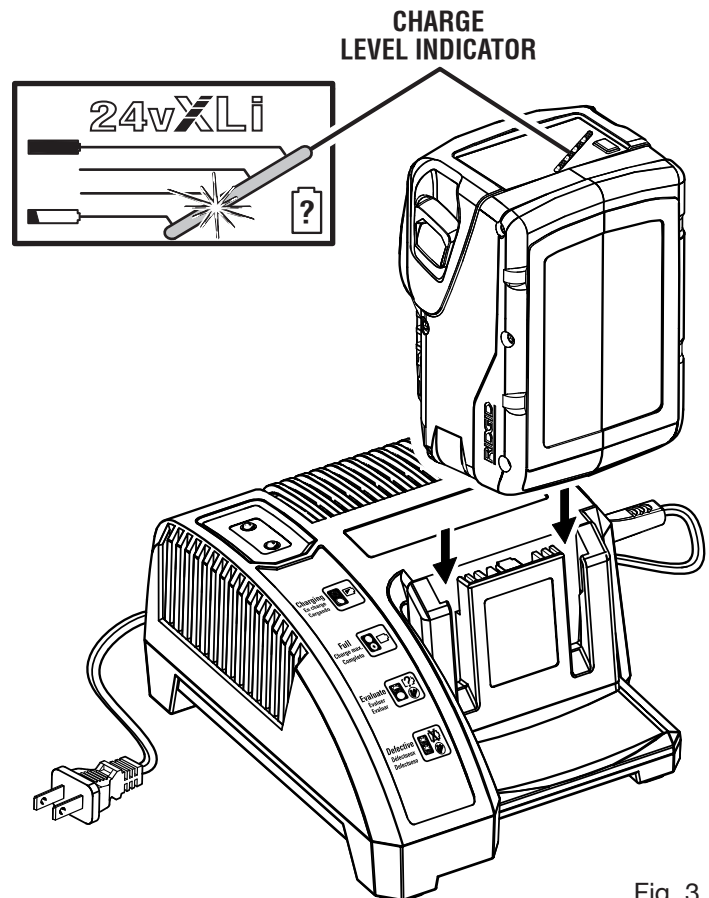

Fig. 3
- Attach the battery pack to the charger by aligning the raised ribs on the battery pack with the grooves in the charger, then slide the battery pack onto the charger. See *Figure 3*.